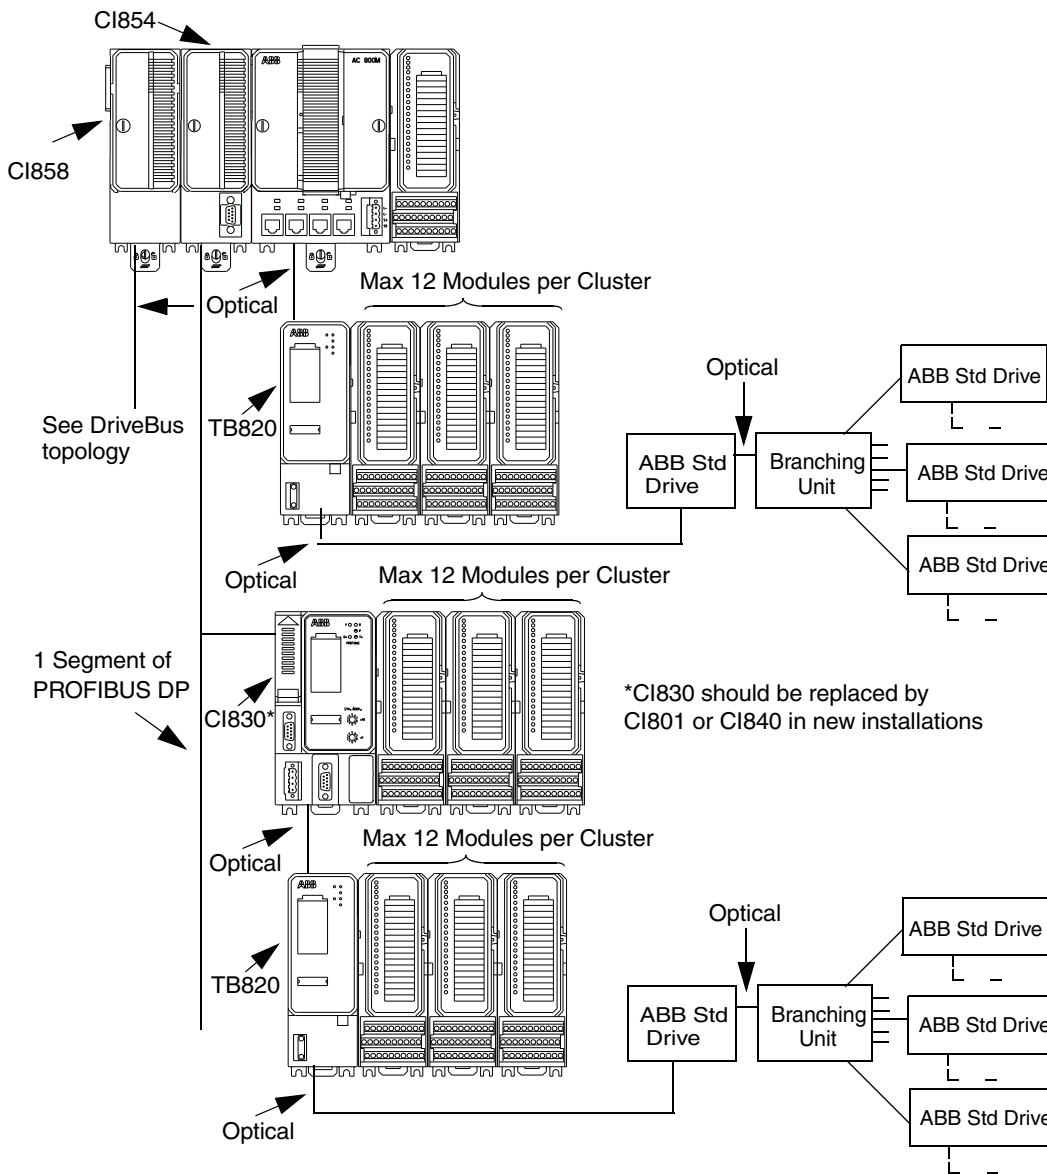

Figure 12. Example of Connection of ABB Drives in Single CPU Configuration
In single CPU configuration, ABB Drives can be connected to the processor unit via the optical ModuleBus. See Figure 12 on page 47. The number of ABB Drives which can be connected to the optical ModuleBus, can be described by the following equation:
In single and redundant CPU configuration, ABB Drives can be connected via PROFIBUS DP and CI801. See Figure 12 on page 47. Only Standard Drives can be connected to CI801. Fourteen (14) Standard Drives can be connected to each CI801 if there are no I/O units connected. For the number of Drives that can be connected to the same CI801, when both I/O units (TB820) and Standard Drives are connected, refer to documentation about FCI for PROFIBUS DP.
For information about Branching Unit (See Figure 12 on page 47) see ABB Drive System documentation.
ABB drives can be connected to the AC 800M via the CI858 unit, see Figure 12 on page 47 and Figure 13 on page 48. The drive interface can be used for controlling up to 24 drives or inverter units.